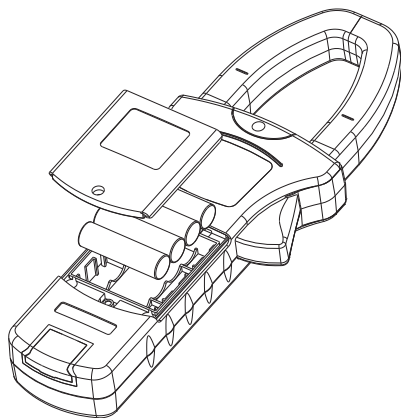

Figure 24
B. Replacing the Battery (see figure 24)